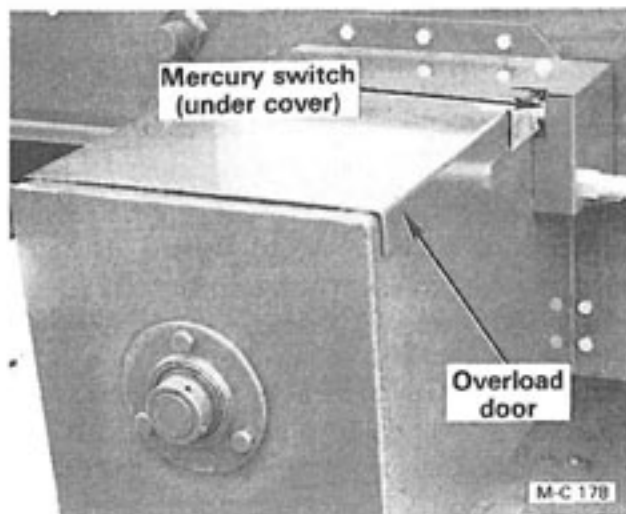

Figure 26
1. If the customer supplied grain take away system fails, the dryer will continue to discharge grain until the rear discharge overload door, Figure 26, is raised by the grain.